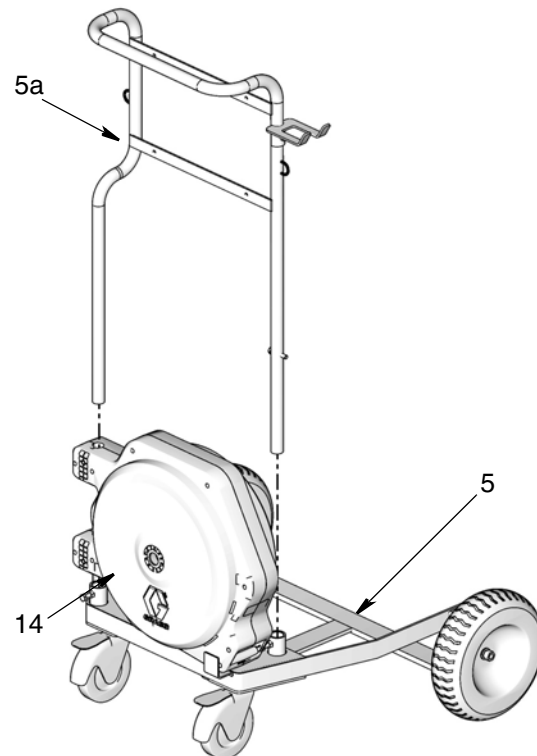

FIG. 30
1. Position the hose reel (14) on the cart frame (5) as shown in FIG. 30.
2. Install the handle sub-assembly (5a) on cart frame (a) as shown in FIG. 30.